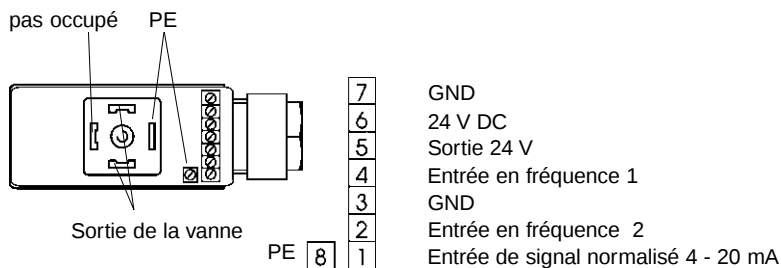

Figure 3: Raccordement
- Raccordez le câble (figure 3).